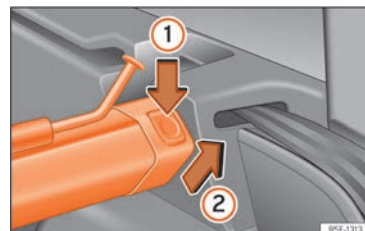

Fig. 139 In the luggage compartment: removing the net partition.
- Press the left or right release catch » Fig. 139 in the direction of the arrow ①.
- Remove the casing from the support in the direction of the arrow » Fig. 139 ②.
- Press the casing into the left and right supports in the opposite direction to the arrow » Fig. 139 ② until it engages.